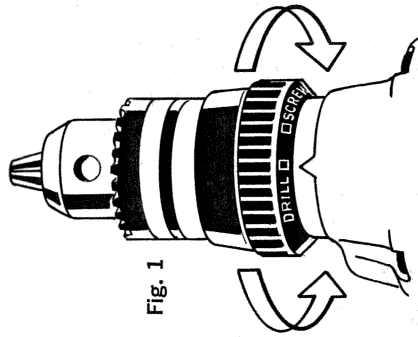

Fig. 1
**DRILLING** — Turn the knurled collar until the "square" next to the word "DRILL" is lined up opposite the indicator on the gear case (Fig. 1). This position is for normal drilling.
**SCREWDRIVING** — Turn the knurled collar until the "square" next to the word "SCREW" is lined up opposite the indicator on the gear case (Fig. 1). This position is for normal screwdriving or screw removal.
To start tool, depress trigger switch; to stop tool, release trigger. To lock trigger in "ON" position for continuous operation, depress trigger and push up locking button "A" Figure 1, then gently release trigger. To release locking mechanism, depress trigger fully, then release it. Before using the tool (each time) be sure that the lock button release mechanism is working freely.